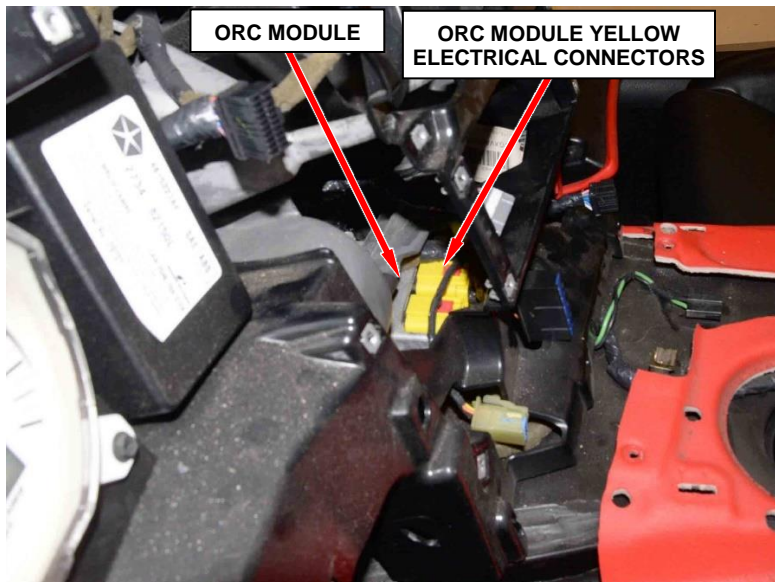

Figure 20 – ORC Module
38. As necessary for access to the ORC module, carefully reposition any wire harnesses located near the ORC module (Figure 20).
39. Disconnect the yellow electrical connectors from the ORC module (Figures 20 and 21).
45. Connect the yellow electrical connectors to the ORC module (Figures 20 and 21).